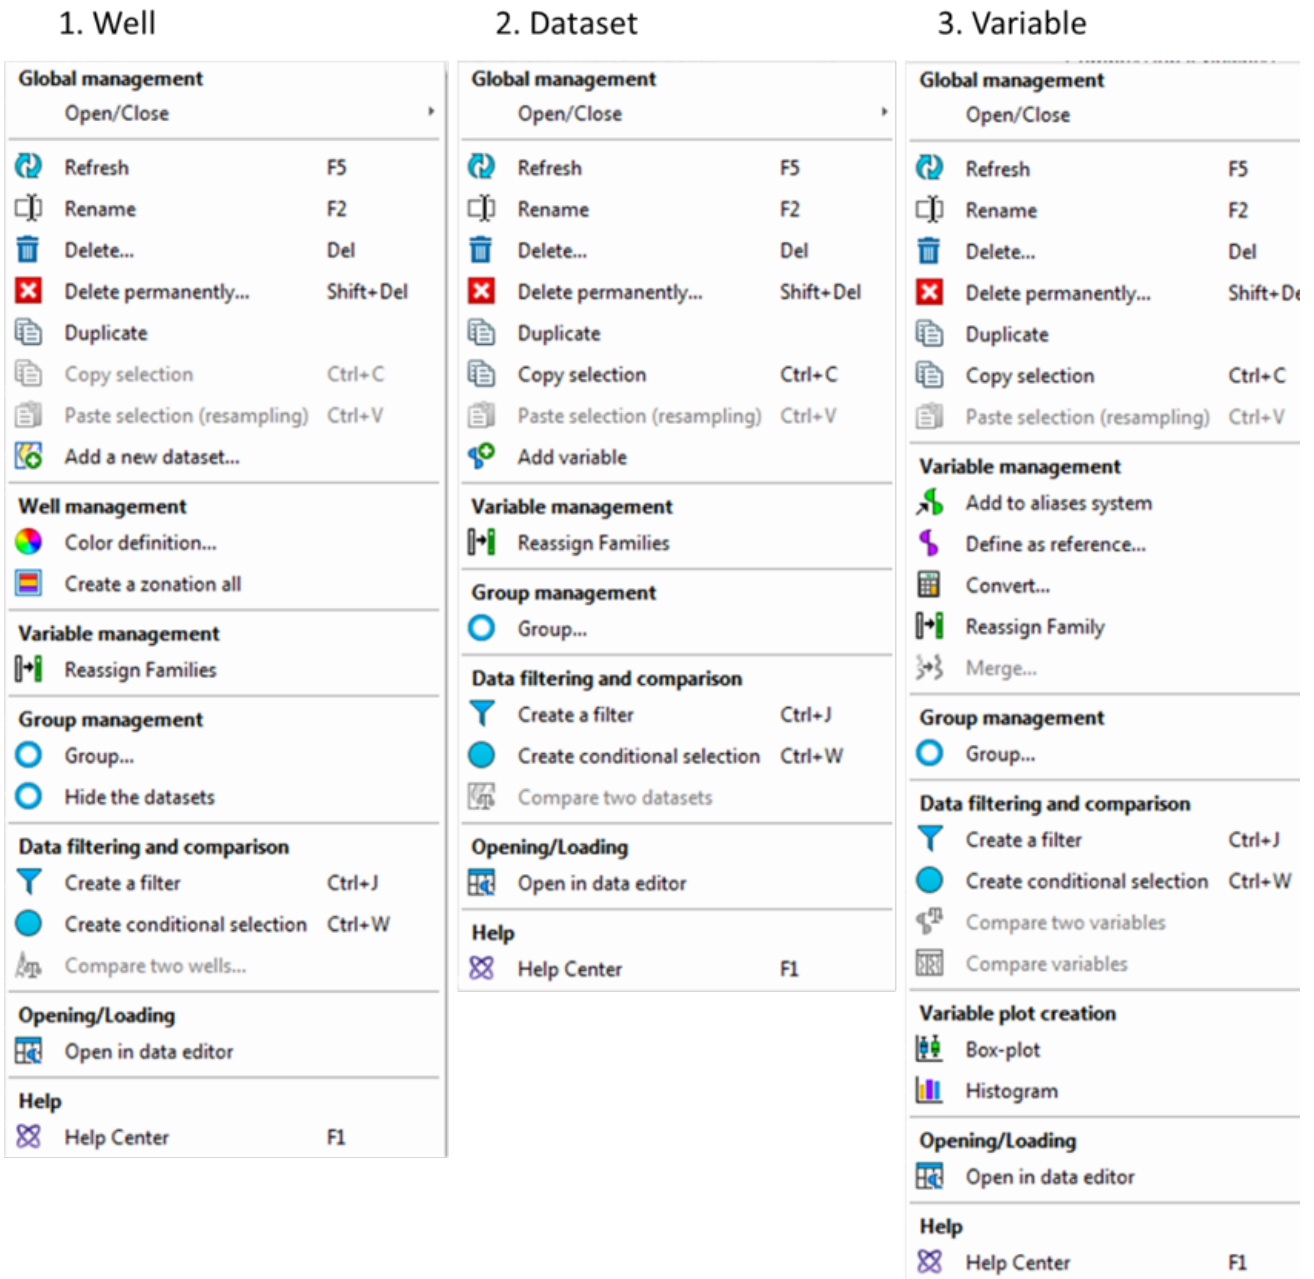

Figure 9: Contextual Right-mouse-button Menu for a well, dataset, and a variable.
3. Select any of the items in the Dataset and click the right mouse button, and the contextual menu will appear, with the different functions that can be applied (e.g. rename a well as Exp-Site-Hole instead of the default long name given from the source file) (Fig. 9)
- i. To assign a Family, RMB click on the variable and select Reassign Families (Fig. 9). If no assignment rules exist for the particular variable, refer to the next section below.